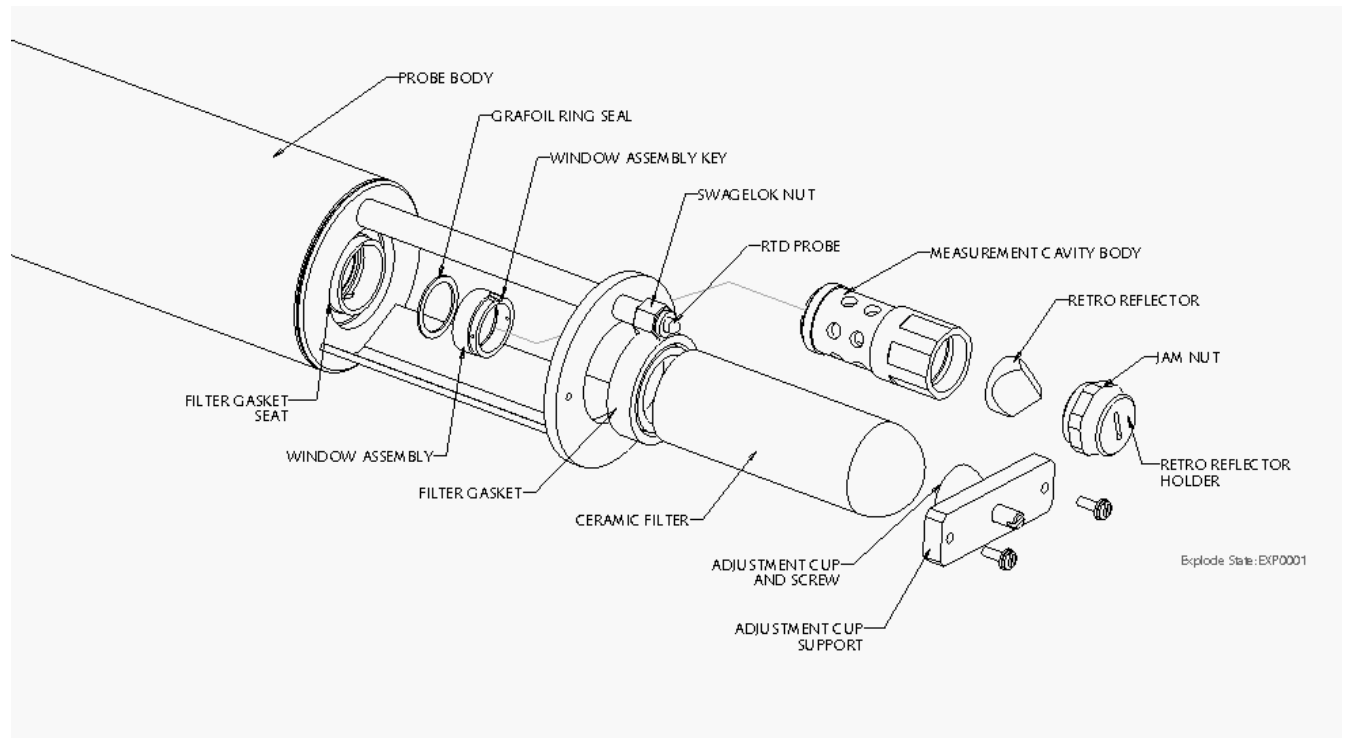
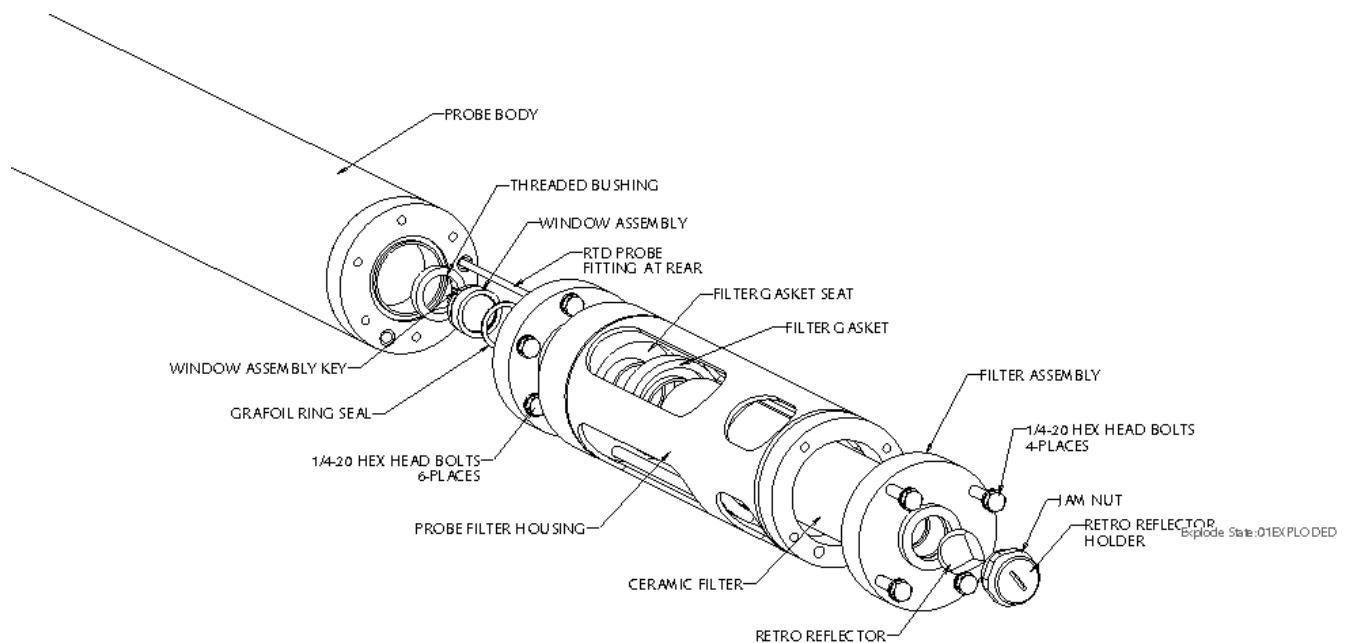

Figure 8-4: Probe Tip Assembly (For 10cm, 20cm or 30cm with extender cavities)
Figure 8-5: Probe Tip Assembly (For 37.5cm, 50cm or 75cm cavities)
3. With the probe in a horizontal position, remove the thermal probe Swagelok nut. For 10cm, 20cm or 30cm with extender the Swagelok connector is at the stack end of the probe (See Figure 8-4). For 37.5cm, 50cm or 75cm, the Swagelok connector is in the rear of the probe. Remove the ferrule, and pull out the old RTD probe (See Figure 8-5).